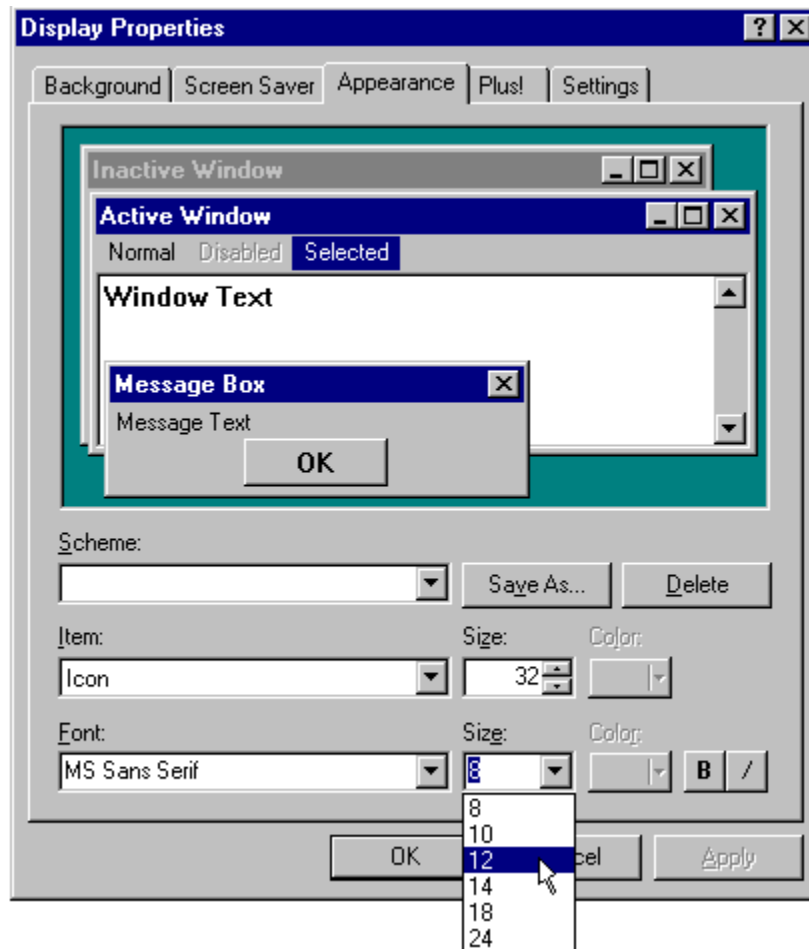

FIGURE 22. Display Properties Dialog, Icon Font Settings
8.17 Touch the font 'Size' drop down box and set the point size to '12'. See Figure 22.